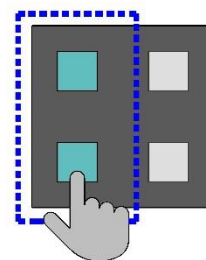

Fig. 5 ON-OFF-ON setup
- **LIGHT BLUE** – “ON-OFF-ON” switches (Two switch channels are required. See Fig. 5)